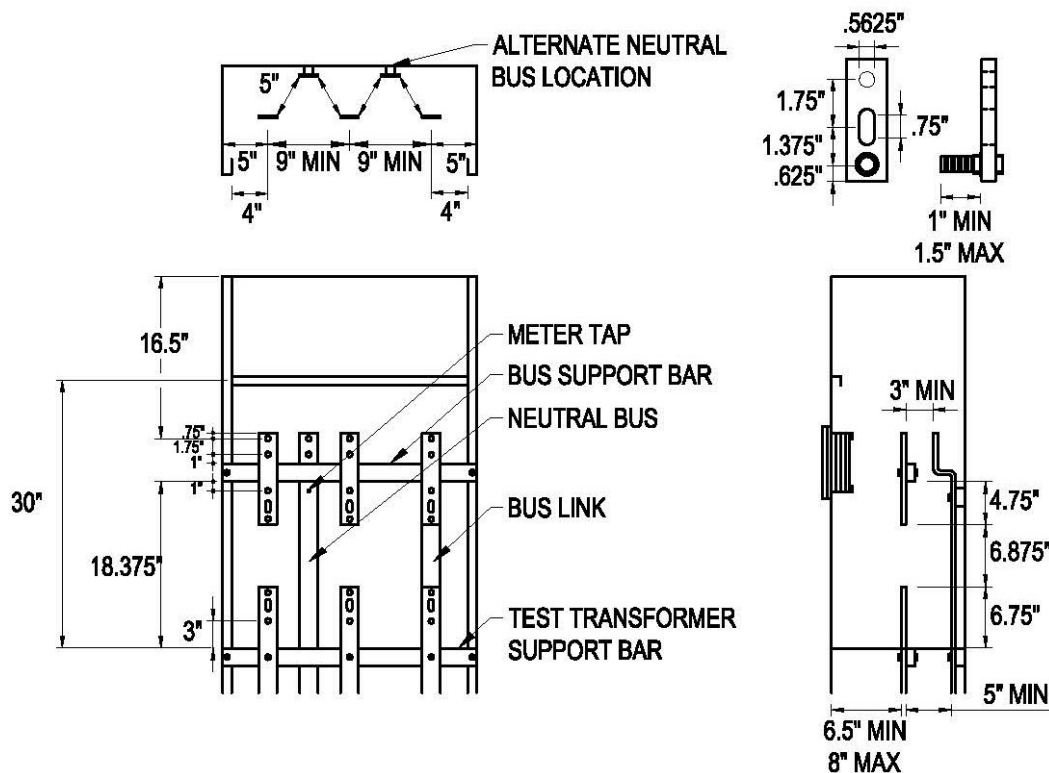

Figure 115. Switchboard Current Transformer Compartment, 0 to 1000 A, 0 to 600 V, Three-Phase, 4-Wire Service (EUSERC 320) (STD-D-6272)
- Bus arrangements and supports must be provided as shown in Figure 115. The neutral bus may be located at either side.